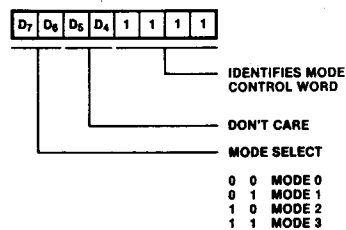

Figure 6. Mode Control Word
**Mode Control Word** (Figure 6). Selects the port operating mode. This word is required and may be written at any time.